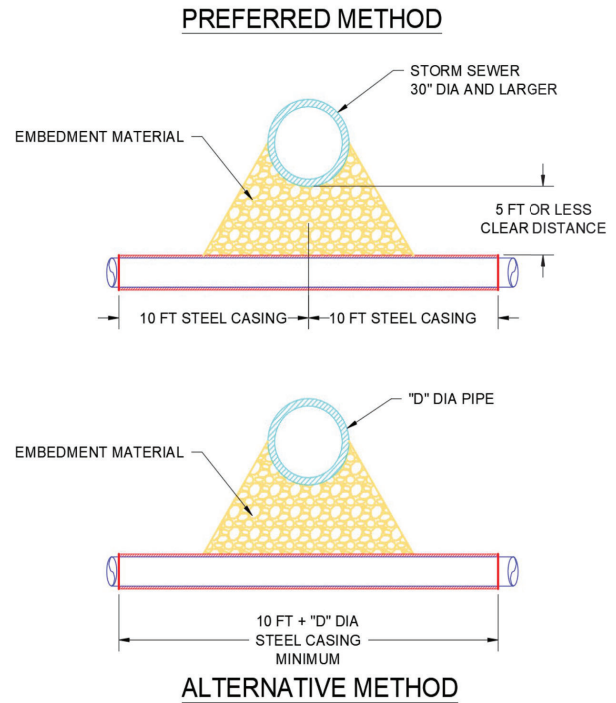

Figure 7- Storm Sewer Crossings
- 3.16. All water mains that cross under storm sewer mains of thirty (30) inch and larger, must be steel encased a minimum of twenty (20) feet centered under storm sewer crossing. If twenty (20) feet cannot be achieved due to alignment or other issues which will not allow at least three (3) feet spacing between the end of casing and any fitting, then the water main can be steel encased a minimum of five (5) feet past the outside diameter of the storm sewer main (i.e. crossing under a 36-inch storm sewer, minimum steel encasing length is thirteen (13) feet, five (5) feet each side of storm sewer pipe plus the three (3) feet storm pipe equals 13 feet). Embedment Material or Type-A aggregate is required under the crossing pipe and above the casing of the water main. This requirement must be indicated and labeled on all design drawings submitted for review and approval. Distance must be measured from outside edges of pipes. If five (5) feet or greater separation can be maintained, steel encasement or additional embedment material or Type-A aggregate is not required. See Figure 7.